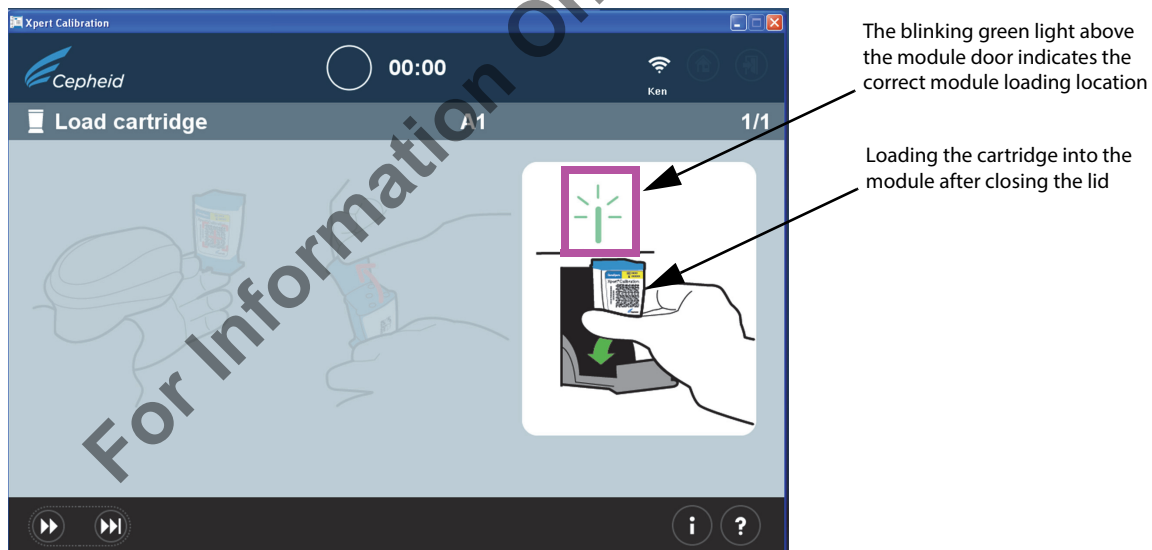

Figure 15. Loading the Cartridge into the Module
- d. Load the cartridge into the module (with the cartridge reaction tube facing away from you), as directed by the software screens. See Figure 15.